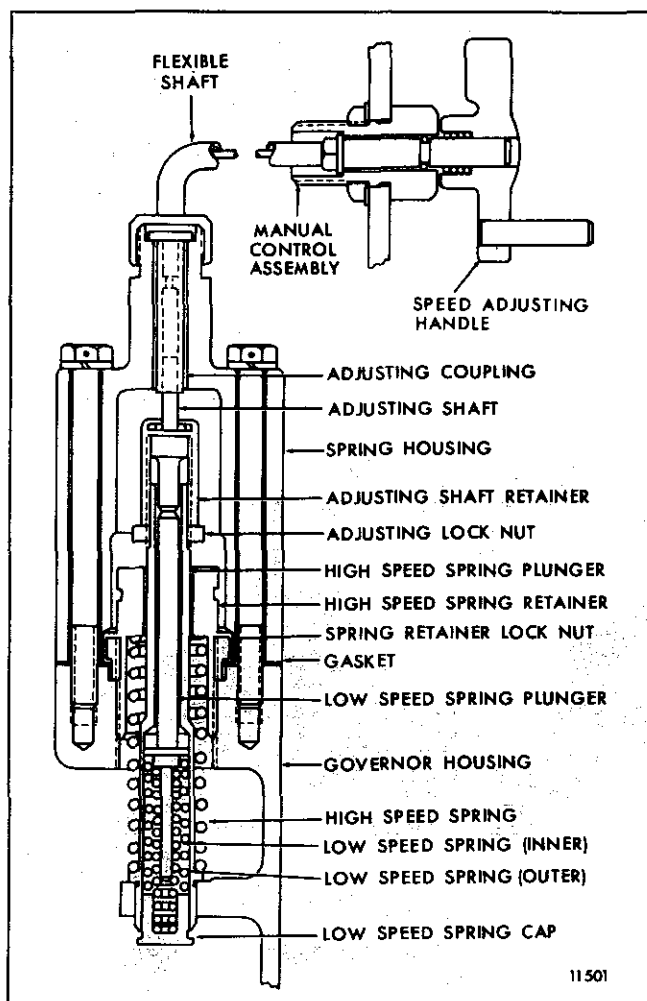
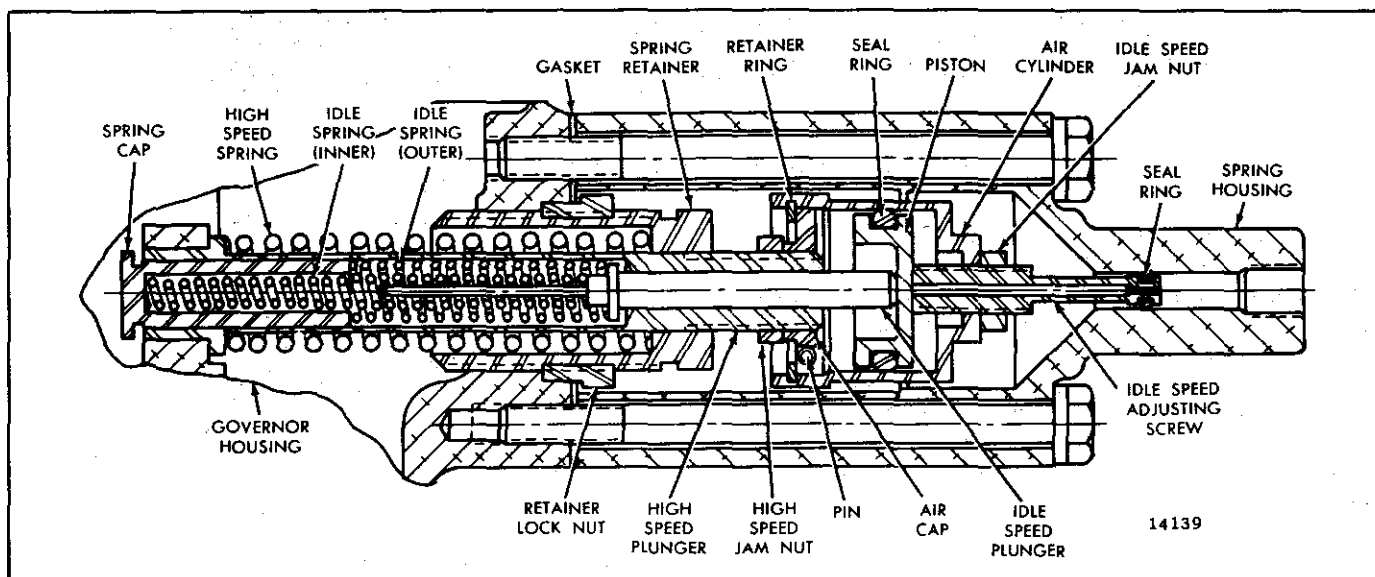

Fig. 1 - Cable Operated Governor Spring Housing and Components
Fig. 2 - Air Operated Governor Spring Housing and Components
During highway operation, the governor functions as a limiting speed governor, controlling the engine idling speed and limiting the maximum operating speed. At the unloading area, the throttle is left in the idle speed position and the speed adjusting handle, on the cable operated governor (Fig. 1), is turned to the speed required within the above range to operate the auxiliary equipment. For the air operated governor (Fig. 2), the engine speed is changed to the speed required by increasing or decreasing the air supply pressure to the governor. The governor, then functions as a variable speed governor, maintaining a constant speed when the load is constantly changing, during the unloading operation. Before resuming highway operations, the speed adjusting handle on the cable operated governor must be turned back to the stop, then turned ahead about one-quarter of a turn. The air operated governor's air supply pressure must be vented before resuming highway operations.
- For *Cable Operated Governors* make a preliminary idle speed (normal highway idle speed) adjustment as follows (Fig. 1):
4. For *Air Operated Governors* make a preliminary idle speed (normal highway idle speed) adjustment as follows (Figure 2):